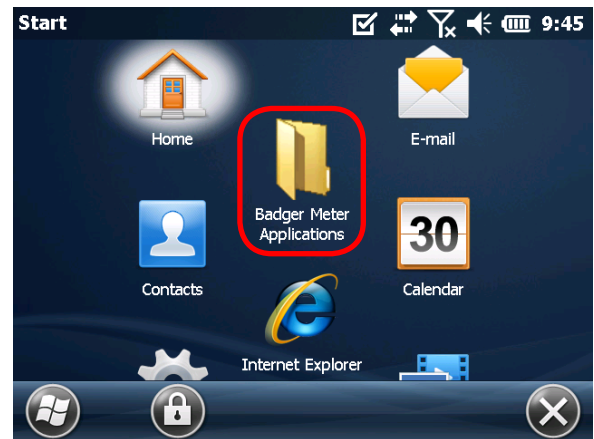

Figure 3: Badger Field Applications folder
*Result: In Admin mode, the program icons display as shown in Figure 3.*